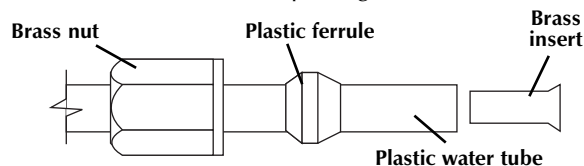

Figure 14
2. Prepare the end (fig 14) of the 1/4" tubing for water connection to the humidifier (All required hardware supplied in the saddle-valve kit in the installation package).